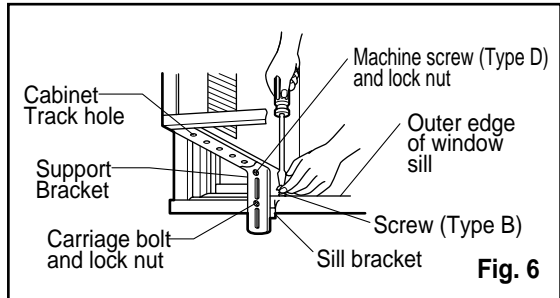

Fig. 6
2. Attach the sill bracket to the window sill using the screws (Type B). Carefully place the cabinet on the window stool and align the center mark on the bottom front with the center line marked window stool. (See Fig. 6)
3. Using the M-screw and the lock nut, attach the support bracket to the cabinet track hole. Use the first track hole after the sill bracket on the outer edge of the window sill. Tighten the carriage bolt and the lock nut. Be sure the cabinet slants outward. (See Fig. 6)